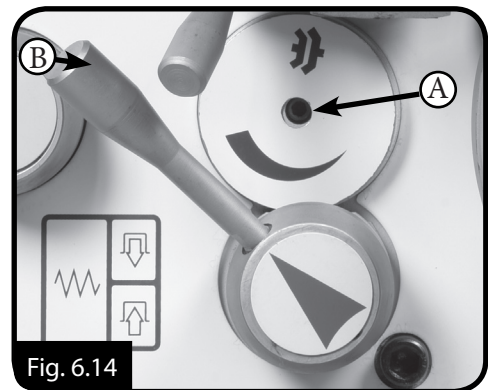

Fig. 6.14
1. With a 5mm hex wrench, turn the center cap screw ("A" in Fig. 6.14) clockwise to increase the clutch holding power, and turn counterclockwise to decrease the amount of clutch holding power.
3. Engage the power feed ("B" in Fig. 6.14) and hold the longitudinal feed handwheel with one hand. The clutch should release within a few seconds without much pressure of handwheel rotation. This holding force is approximately 12 kgs.